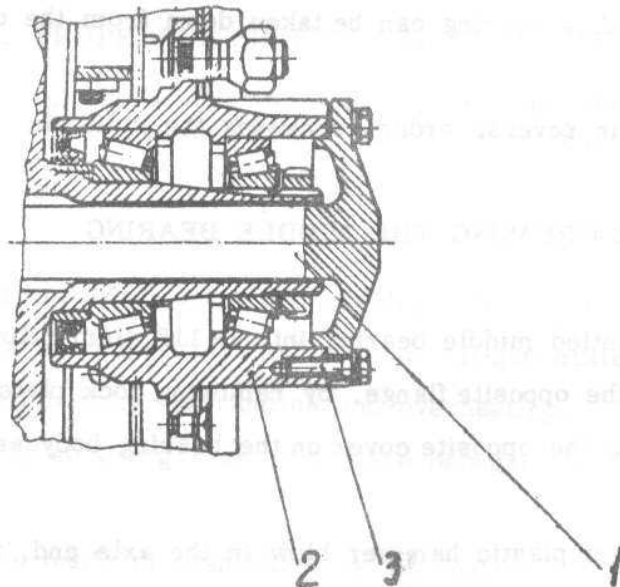

Fig.2.12. REAR AXLE DRIVE SHAFT FASTENING ON WHEEL HUB
- Unscrew bolts fastening rear axle drive shaft on the wheel hub (see fig.2.12).